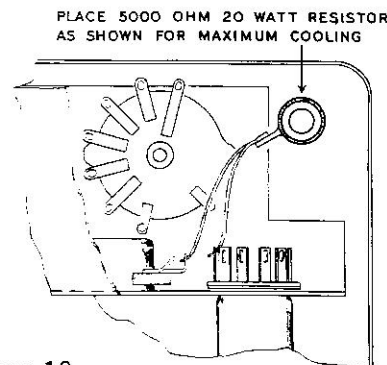

Figure 10
- ( ) Connect a 47 K $\Omega$  2 watt resistor between pin 2 (S) and through pin 6 (S) to pin 3 (S) on the 6CL6 socket.
- ( ) Connect a 16  $\mu$ fd 150 volt electrolytic condenser with the positive (+) lead to pin 6 (S) (2) and the negative (-) lead to pin 2 (S) (2) on the 6AU6 socket. Use sleeving on both leads. Place condenser close to chassis.
- ( ) Place the line cord through the hole in the rear edge of the chassis. Connect one lead to lug 1 (S) (2) and the other lead to lug 2 (S) (2) on the terminal strip.
- ( ) Connect a 20  $\mu$ fd 350 volt electrolytic condenser with the negative (-) lead to lug 2 (NS) on the candelabra socket and the positive lead (+) to pin 7 (NS) on the 6CL6 socket. Use sleeving on these leads.
- ( ) Connect a 5000  $\Omega$  20 watt resistor between pin 7 (S) (3) on the 6CL6 socket and lug 2 (S) (2) on the oscillator control. Leave the leads fairly long and dress as shown in Figure 10.
- ( ) Connect a 7 1/2" wire between lug 2 (NS) on the candelabra socket and lug 3 (S) on the output control.
- ( ) Connect a 3 1/2" wire between lug 3 (S) (2) on the oscillator control and lug 1 (S) on the output control.
- ( ) Connect a wire between lug 5 (S) (3) on the 5-lug terminal strip and the nearest twisted mounting prong (NS) on the filter condenser.
- ( ) Connect an 8 1/2" wire between lug 3 (S) (3) on the 5-lug terminal strip and lug 2 (S) on the meter control.